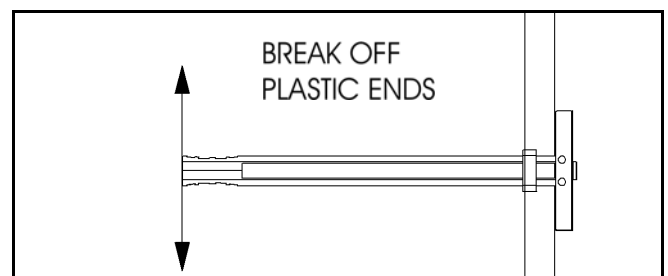

Figure 12:
6. Split finger grip ends apart to break plastic ends off flush with plastic ring of anchor (see Figure 12).